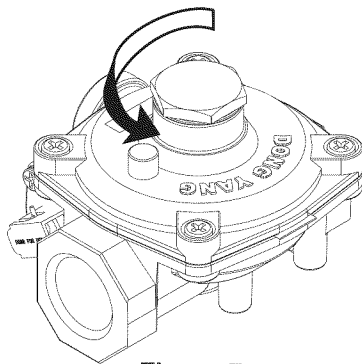

Figure 7
1. Unscrew the hex shaped cap and turn it over to access the conversion plug inside the cap (Figure 7).